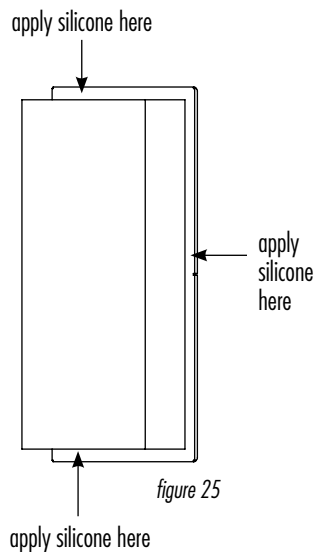

figure 25
2. Apply a continuous bead of silicone on the back edge of the shampoo shelf (fig. 25).